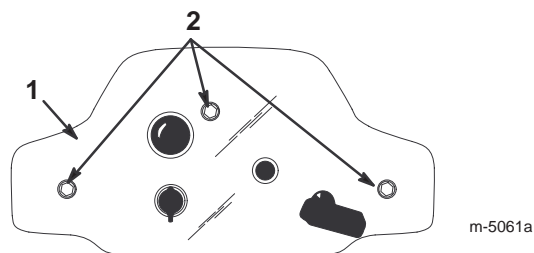

Figure 23
3. Remove the 3 mounting screws that secure the control panel to the housing (Fig. 23).